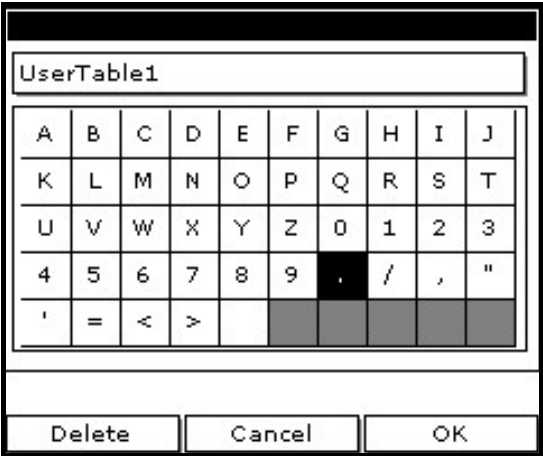

Figure 28: Text Creation Window
- 3. Use the arrow keys to move to the Table ID box and press [ENTER]. A screen similar to Figure 28 appears.